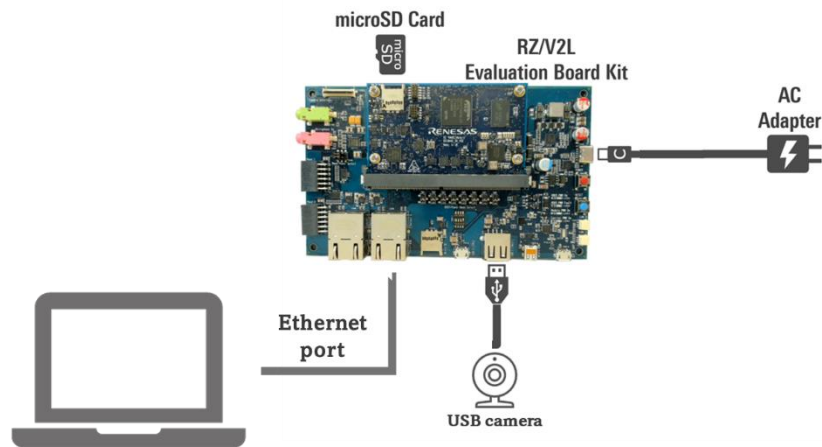

Figure 7: Hardware wiring and connectivity
4. Once the board is set up, please connect as shown in figure 7, do note the switch SW1 & SW11 orientation depend on which bootloader (eSD/eMMC) you opted for